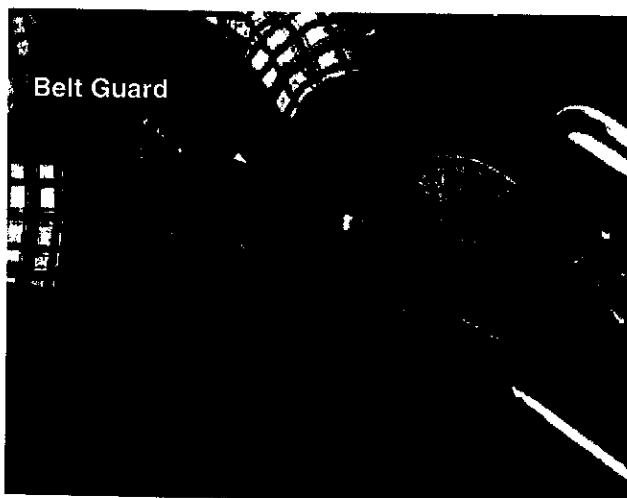

Figure 22
3. Remove the belt guard. See Figure 22.